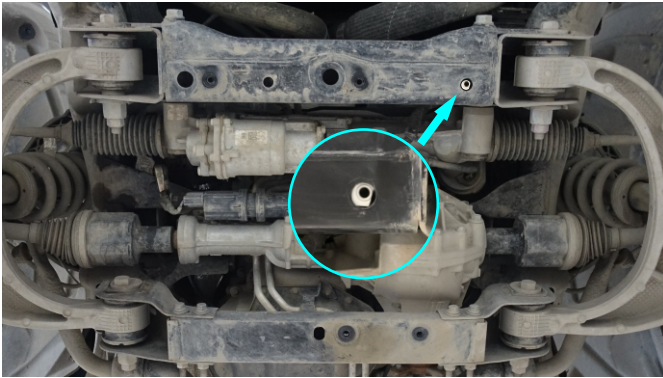

Fig. 1
1. Install insert nut M10x65x20 (item A) as shown in fig.1.